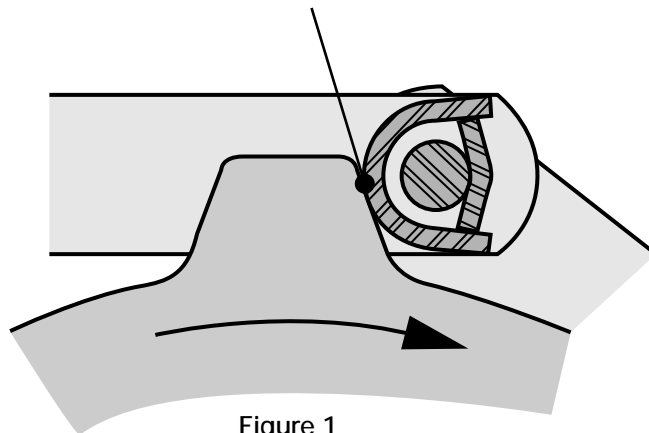

Figure 1
**The Problem:** Since their introduction, wide mill welded steel chains were designed to run “narrow” or “closed end” forward. This is the direction of travel that the chains on the preceding page run. Running in this direction, an offset sidebar chain will experience scrubbing between the outside of the chain’s barrel and the drive sprocket’s tooth (Figure 1). On shorter conveyors, where the chain contacts the sprocket very frequently, this scrubbing can cause rapid wear of both the chain and sprocket. This scrubbing may not cause as much chain wear on longer conveyors but it will still cause sprocket wear.
Note the difference in position of the pin within the barrel in Figures 1 and 2. When running narrow end forward and the engaged pin is being pulled forward at the time of engagement and the pin of the previous link is being pulled against the front of the barrel.